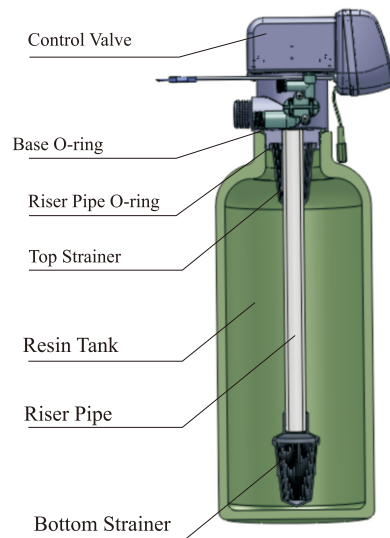

Figure 1-1
- ①The filter or softener should be located as close as to drain.
- ②Ensure the unit is installed in enough space for operating and maintenance.
- ③Brine tank needs to be close to softener.
- ④The unit should be kept away the heater, and not be exposed outdoor. Sunshine or rain will cause the system damage.
- ⑤Avoid installing the system in circumstance of acid/alkaline, magnetic or strong vibration, because above factors will cause the system disorder.
- ⑥Do not install the filter or softener, drain pipeline or overflow pipe in circumstance where temperature may drop below 5°C, or above 50°C.
- ⑦Install the system in the place where with the minimum loss in case of water leakage.
①Install control valve
a.As the Figure 1-1 shows, select the riser pipe with 26.7mm OD, glue the riser pipe to the bottom strainer and put it into the mineral tank, cut off the exceeding pipe out of tank top opening and make external rounding.